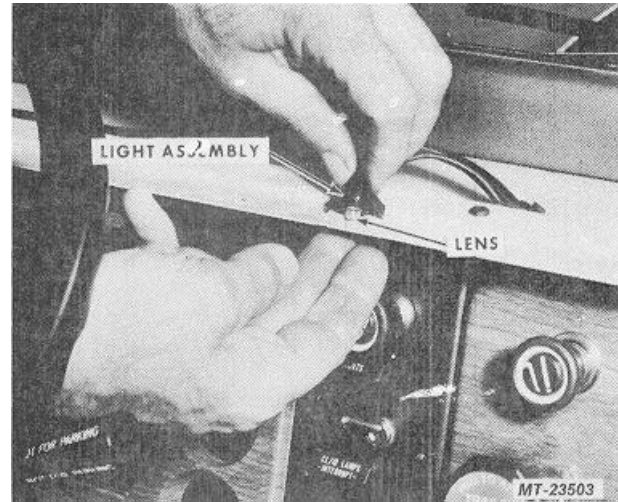

Fig. 17 Instrument Panel Control Light
1. Remove nine (9) screws and remove instrument panel top cover.
3. Disconnect light assembly wiring connector from wiring harness connector (Figure 17).
4. Disengage slot of light assembly from lens to remove light assembly (Figure 17). Do not lose lens which can fall out of instrument panel when light is removed.
For light assembly and lens relationship, see Figure 17.